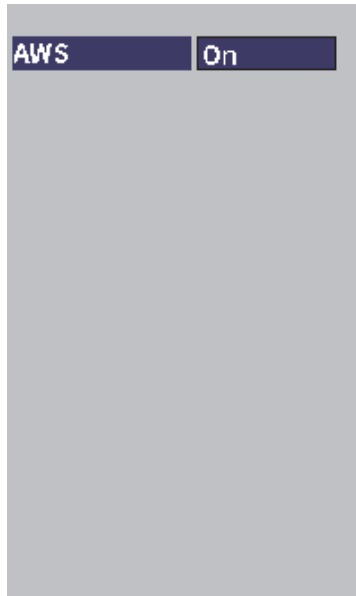

Figure 11-24 AWS dialog box
2. Select the **AWS** icon () to open the AWS dialog box (see Figure 11-24 on page 182). See “Navigating Dialog Boxes and Setup Pages” on page 19 for details on using dialog boxes.